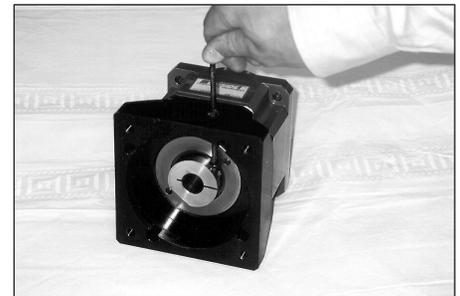

Fig. 2
Step 3. Insert the supplied Allen wrench through the pinion bolt access hole into the head of the pinion bolt. This bolt should be loose. Do not tighten it. (Fig 2) NOTE: If the motor shaft has a flat, rotate the motor shaft so that the flat will be opposite to the pinion bolt.